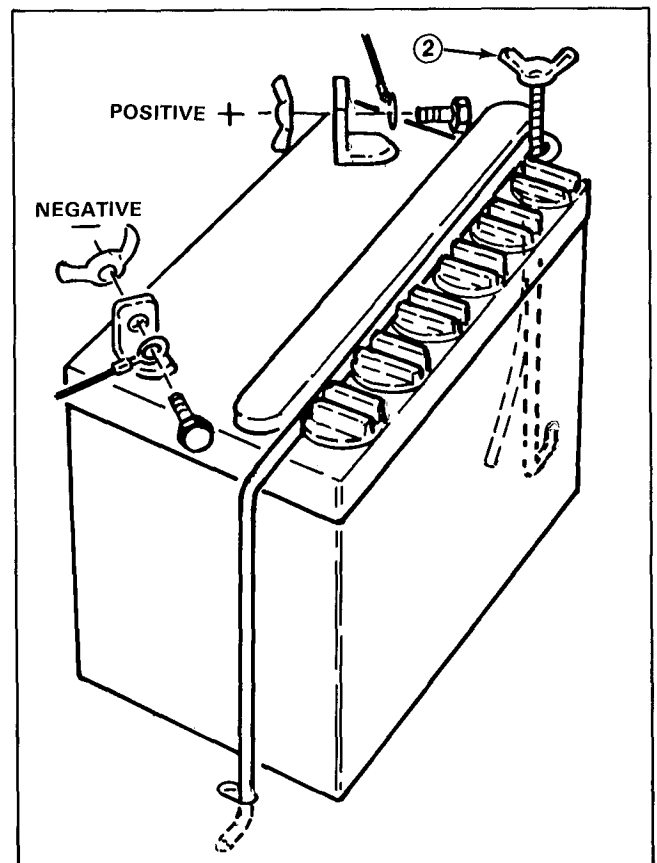

Figure 3
7. Install the battery with the terminal posts toward the center of the machine and vent tube thru hole in frame (Fig. 3).
1. Remove wing nut securing battery hold downs to rider chassis. (Fig. 3).
9. Install the positive cable to the positive (+) terminal and the negative cable (black) to the negative (-) terminal of the battery and secure with capscrews and wing nuts (Fig. 3).